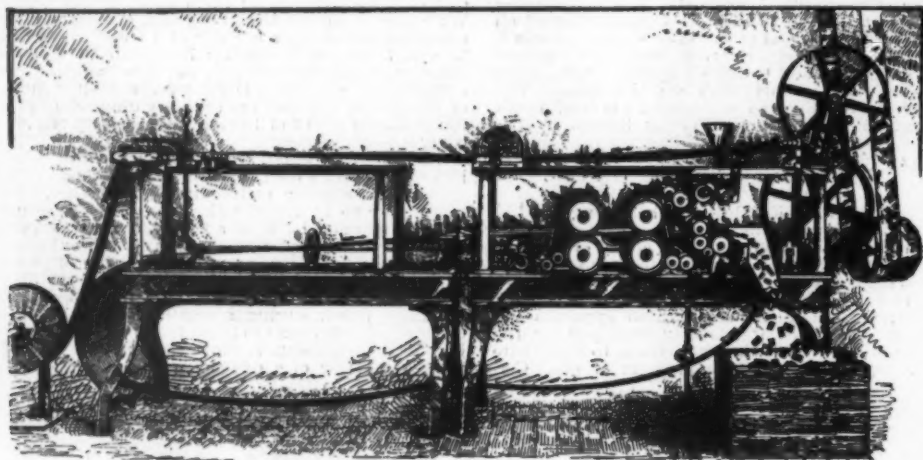

FIG. 5.—MACHINE FOR MAKING STRAWBOARD BOX COVERS.
cardboard, the glued strip holding the two edges together. This "tube" of cardboard twice traverses the length of the machine, which is some 12 feet long, being led over wheels. This long travel has three purposes: (1) To let the glue dry; (2) to allow the machine to turn the tube over, so as to get the join in a suitable place for future operations; and (3) to allow the completed cover to be easily opened when the operation of putting the boxes in the covers is performed. The tube then passes between two printing rolls, which print any required design, first on one face and then on the other face, with one of the edges. Proper lengths of tube are then automatically cut off, thus forming the box covers; and the last process is to bring the edge of each box cover against a wheel dipping in melted glue, and then to throw white sand against the glue while it is still wet. This is done by means of a sort of revolving toothed wheel, which works in a box kept supplied with sand from a hopper. There are six machines of this type, of varying sizes, and they turn out from 300 to 640 covers per minute, according to size. They can be adjusted to take any requisite size of card. Our illustration, Fig. 5, shows one of the largest sizes.